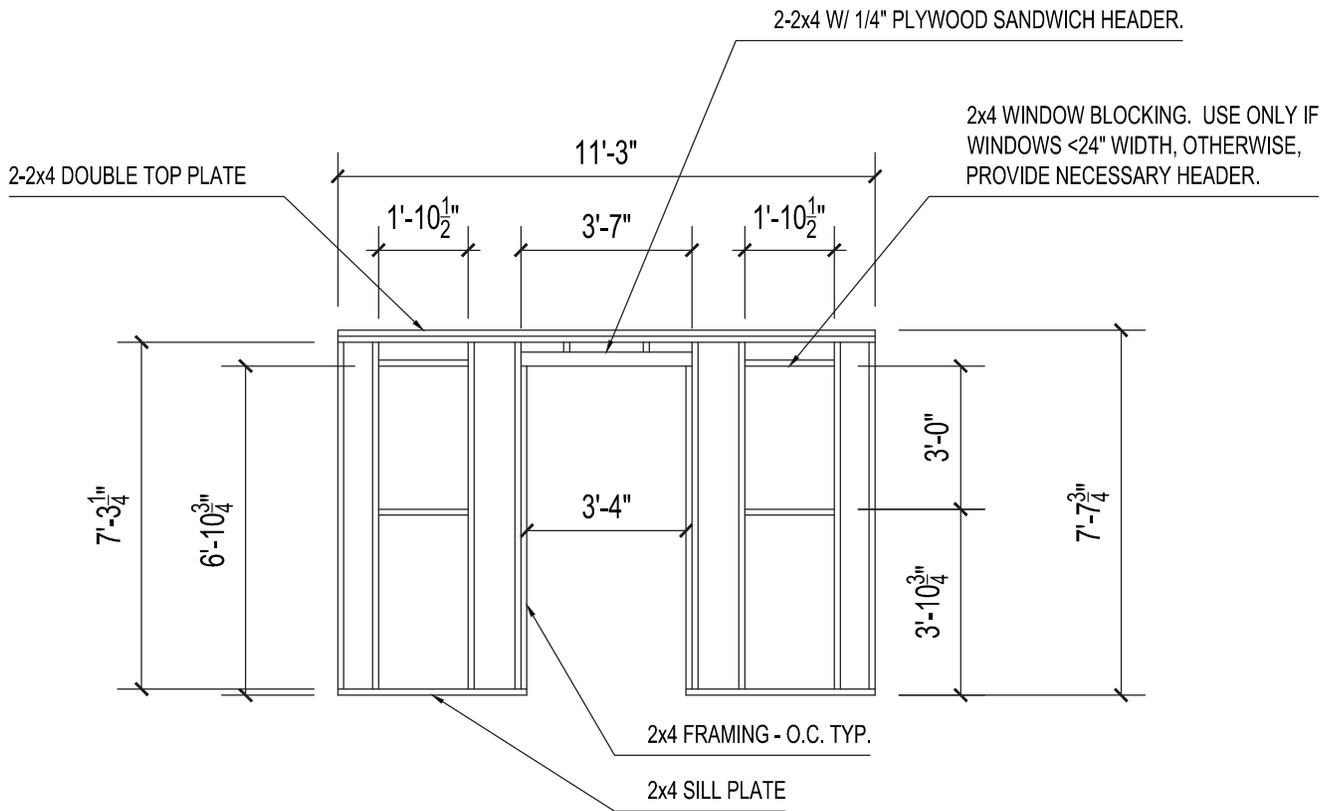
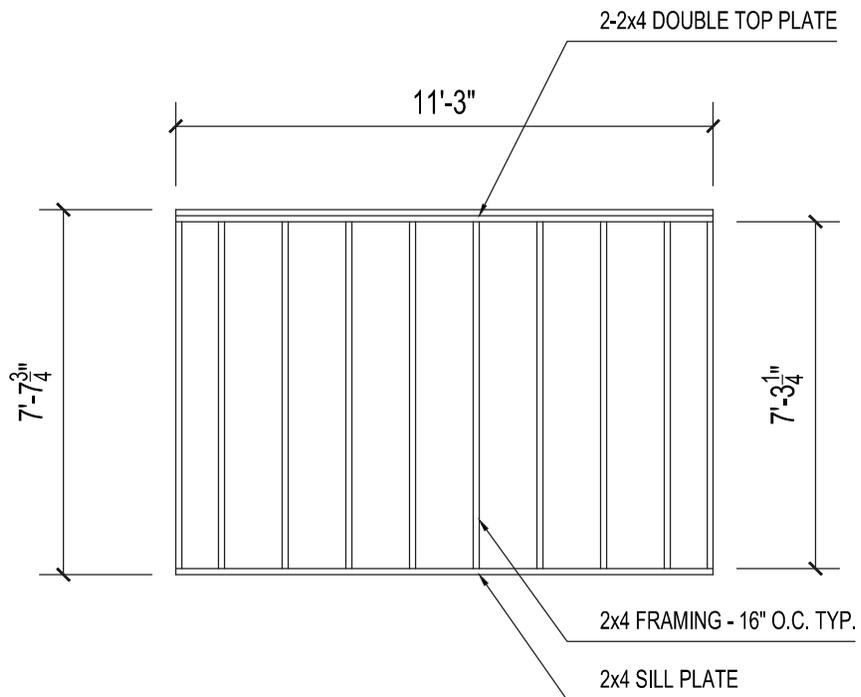

fig.10- Front Wall Framing
fig.11- Rear Wall Framing
- a) Cut 3 2x4 members to 7" short of the total length of the shed. See fig.10 (rear wall) or fig 11 (front wall) for the actual dimension.
- b) Cut all studs to 7'-3 1/4" (unless otherwise noted in fig.10 or fig.11) The number of studs can be found in fig.10.
- d) Mark the center of the wall studs on both the top and bottom members, spacing should be 16" on center. See fig.10 for layout.
- ii. Cut two members to the width of the opening and nail in place per fig.10 or fig.11. Adjust positioning based on required framed opening. See manufacturer's requirements.
- ii. Cut a 2x4 members to the width of the opening per fig.10 or fig.11. Adjust positioning based on required framed opening. See manufacturer's requirements.